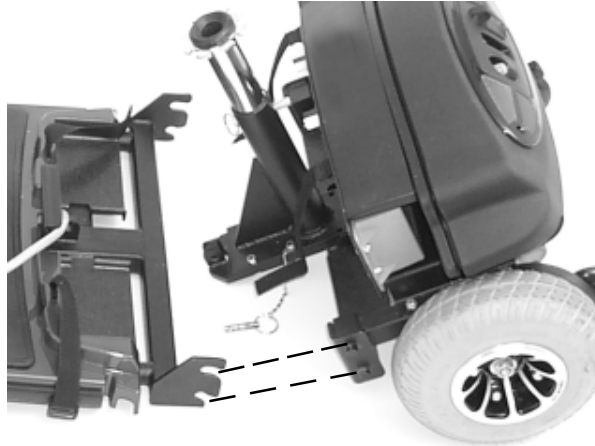

FIGURE 18. FRAME POSITIONING
2. Position the front and rear sections of your scooter as shown in figure 18.